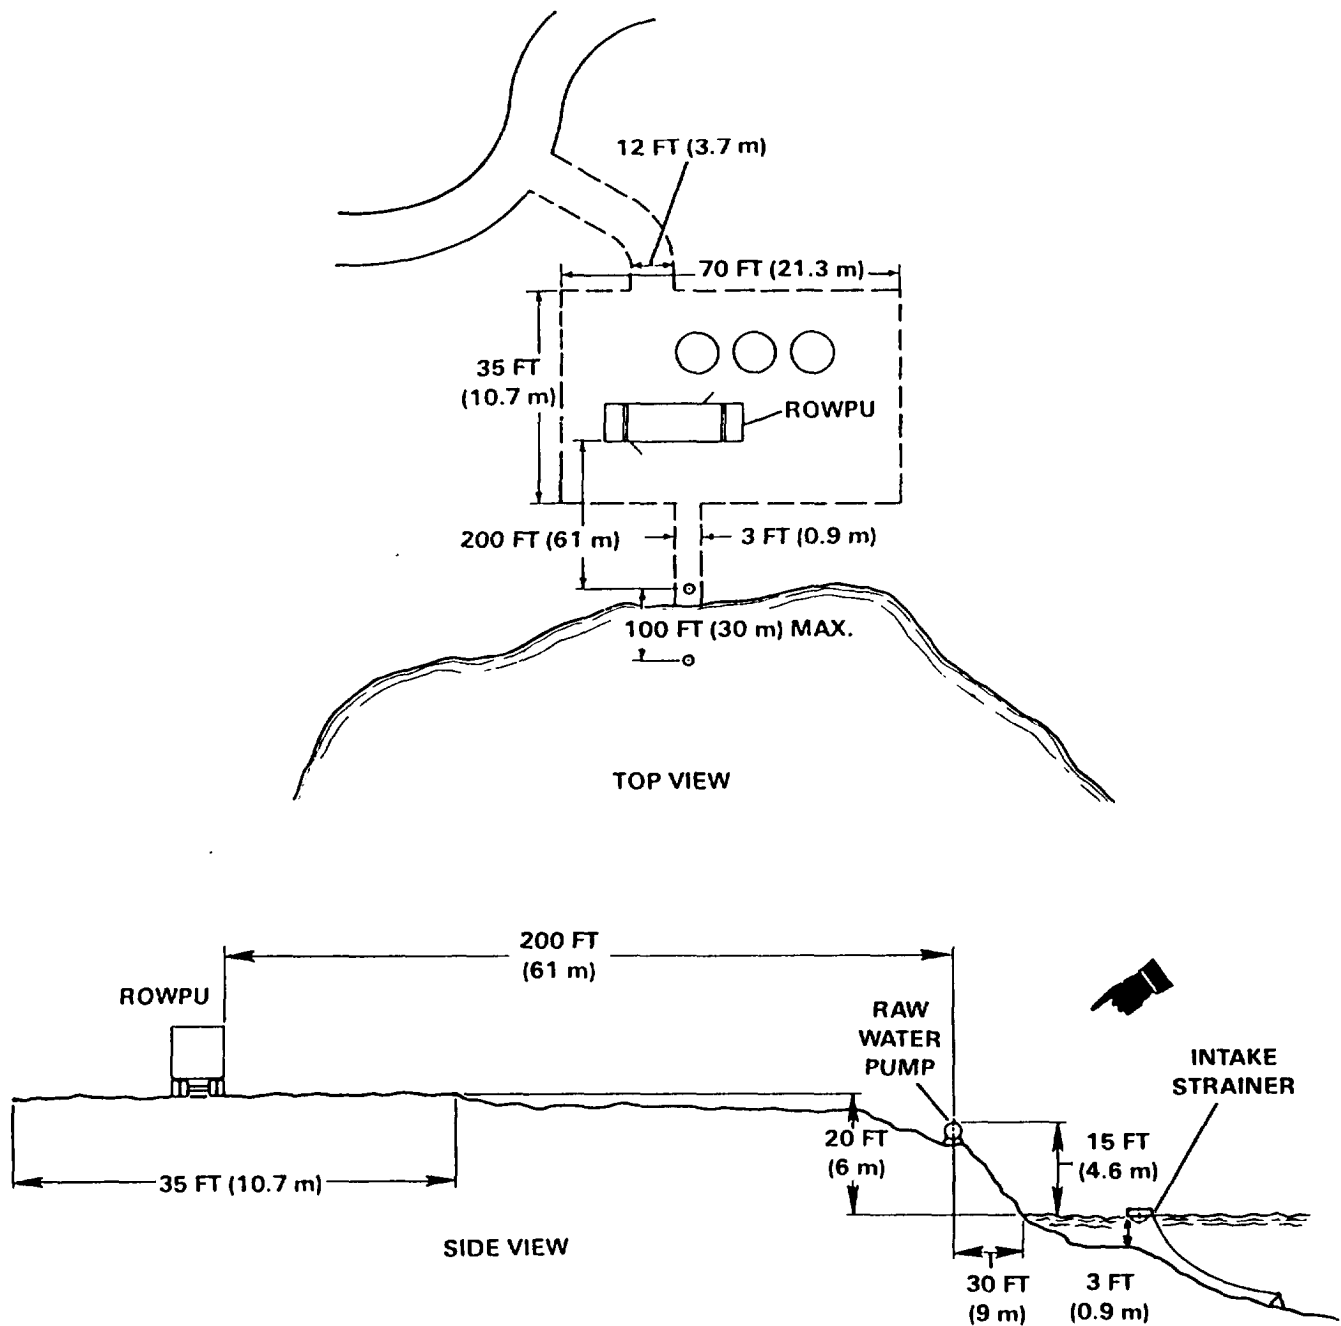

Figure 2-22. Work Site Dimensions
- c. *Work Site Dimensions (figure 2-22).*